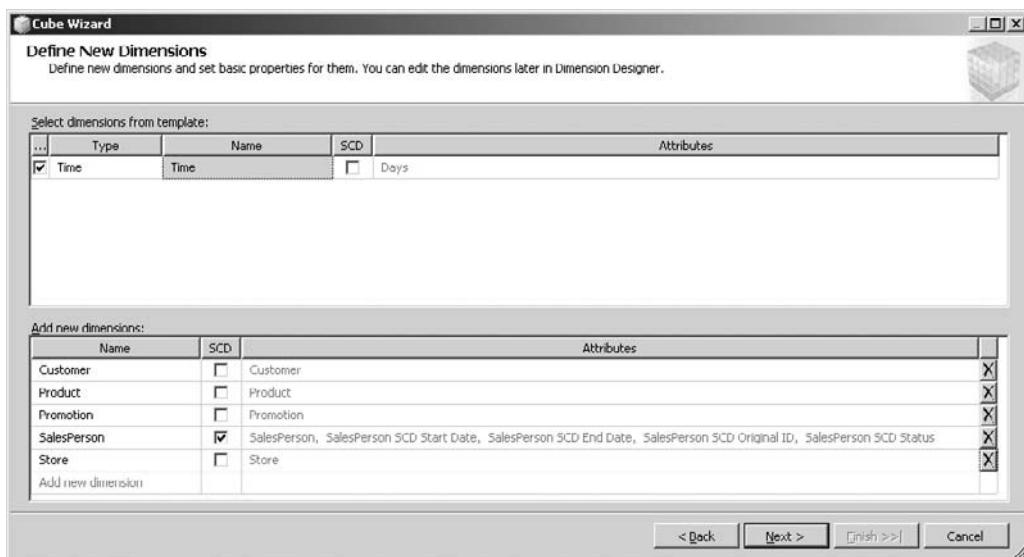

Figure 6-27 After defining dimensions in the Cube Wizard
34. Click the cell containing “Add new dimension” and enter **Store** in the Name column. The Define New Dimensions page should appear as shown in Figure 6-27.